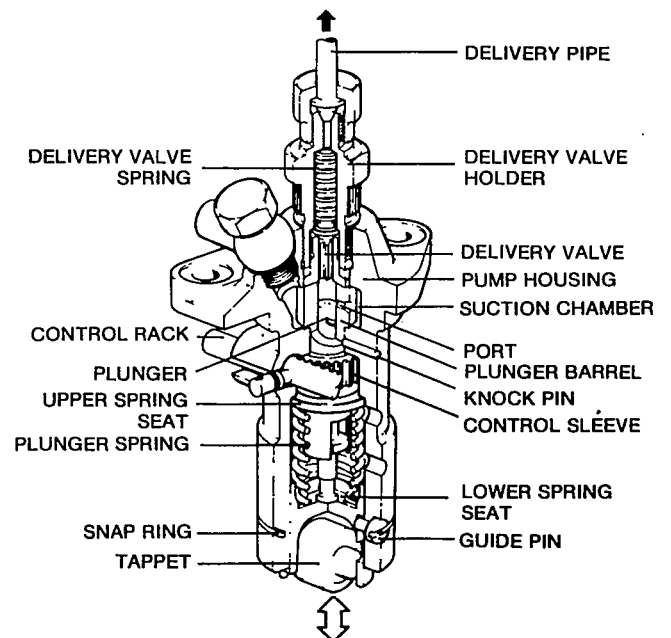

FIGURE 21m. SINGLE INJECTION PUMP ASSEMBLY
1. Remove one high pressure line (both ends), and the corresponding delivery valve holder, spring, volume reducer, and delivery valve, Figure 21m. Leave gasket and seat in pump.